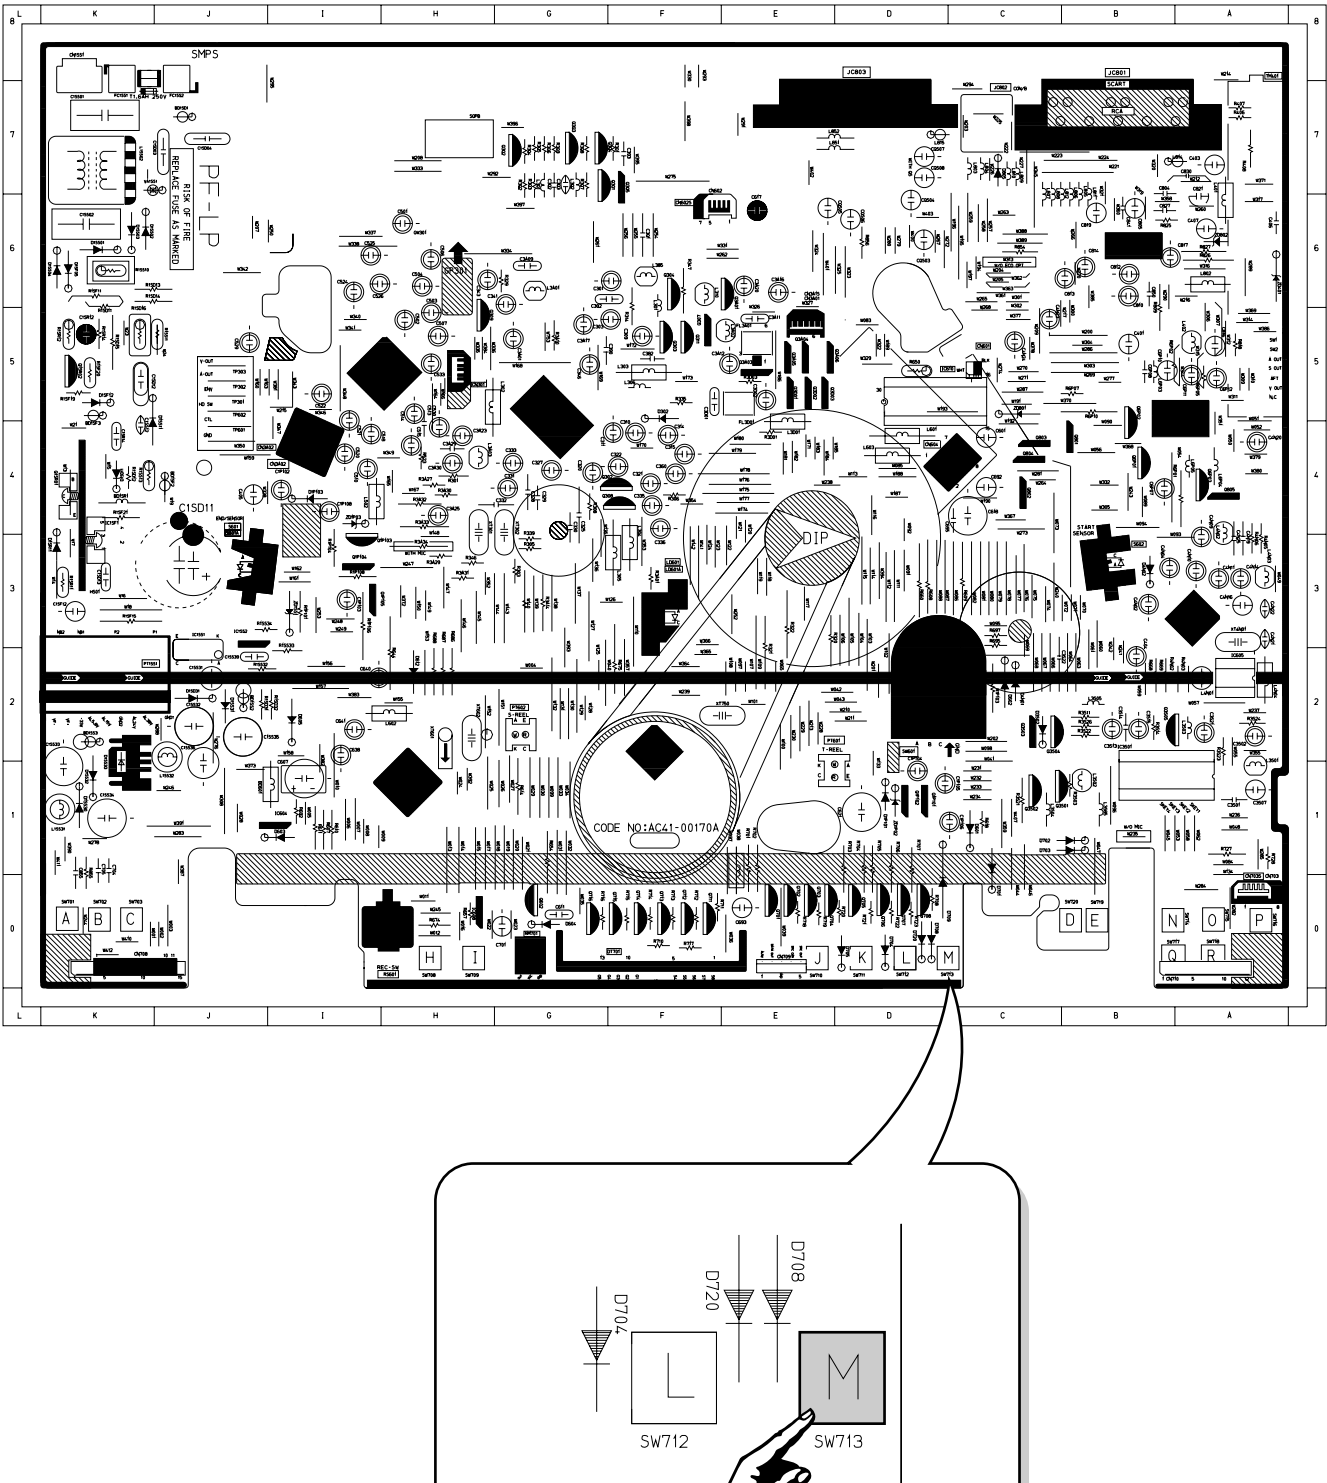

Fig. 5-2 Main PCB (Top View)
- 2) Press the "SW703" button on Main PCB to set the adjustment mode. (See Fig. 5-2)